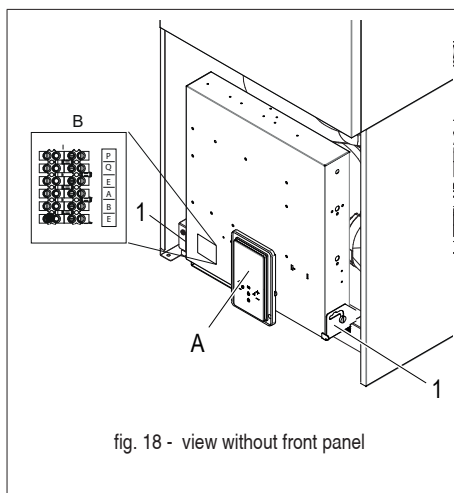
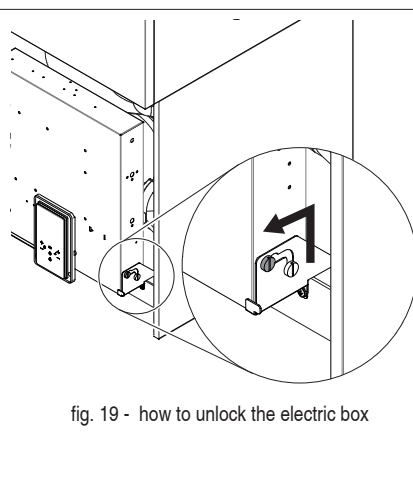
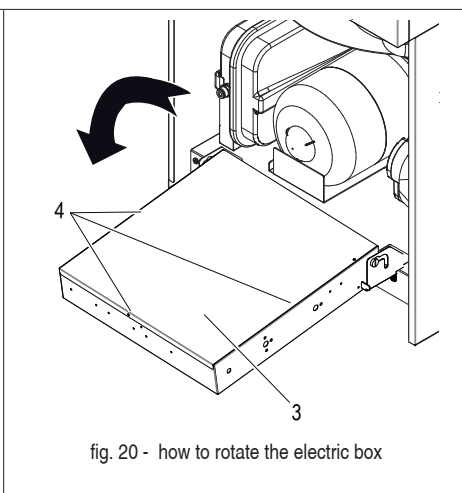

fig. 18 - view without front panel
fig. 19 - how to unlock the electric box
fig. 20 - how to rotate the electric box
To access to the terminals of the indoor unit unscrew the two screws (part. 1 - fig. 18) under the electrical box, then catch the electric box, and unlock (fig. 19), then rotate forward (fig. 20). Remove the back metal sheet (part. 3 - fig. 20) that is fixed with 4 screws (part. 4 - fig. 20).
- A Display panel and keyboard (fig. 18)
The terminal block (detail B fig. 18) is located on the left side of the electric box. The terminal block is a male-female connector strip. There is an identification label of the 6 terminals available on the side of the terminal block ("Table. 6 - Terminal block table").